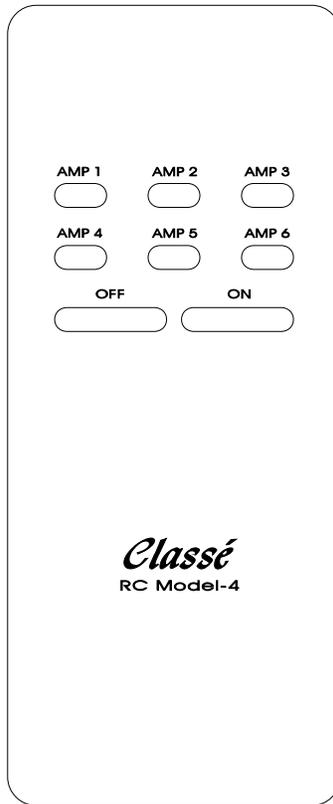

Fig.3: Remote control model-4
2. We are also offering an optional remote control for customers who do not have a CP-50/60; this remote (see fig. 3, page 4) will have an individual key for each amplifier (1 through 6) as well as a key for all on and a key for all off. This remote control is available separately and priced separately from the remote interface box itself.